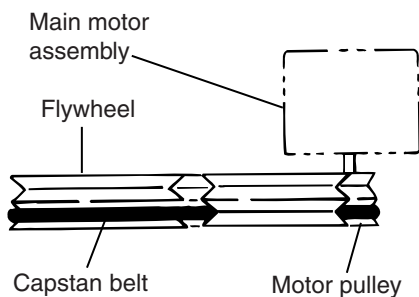

Fig. 6
**Caution:** Be sure to handle the capstan belts carefully so that these belts will not be stained by grease and other foreign matter. Moreover, these belts should be hang while referring to the capstan belt hanging method in Fig. 6 and 7.